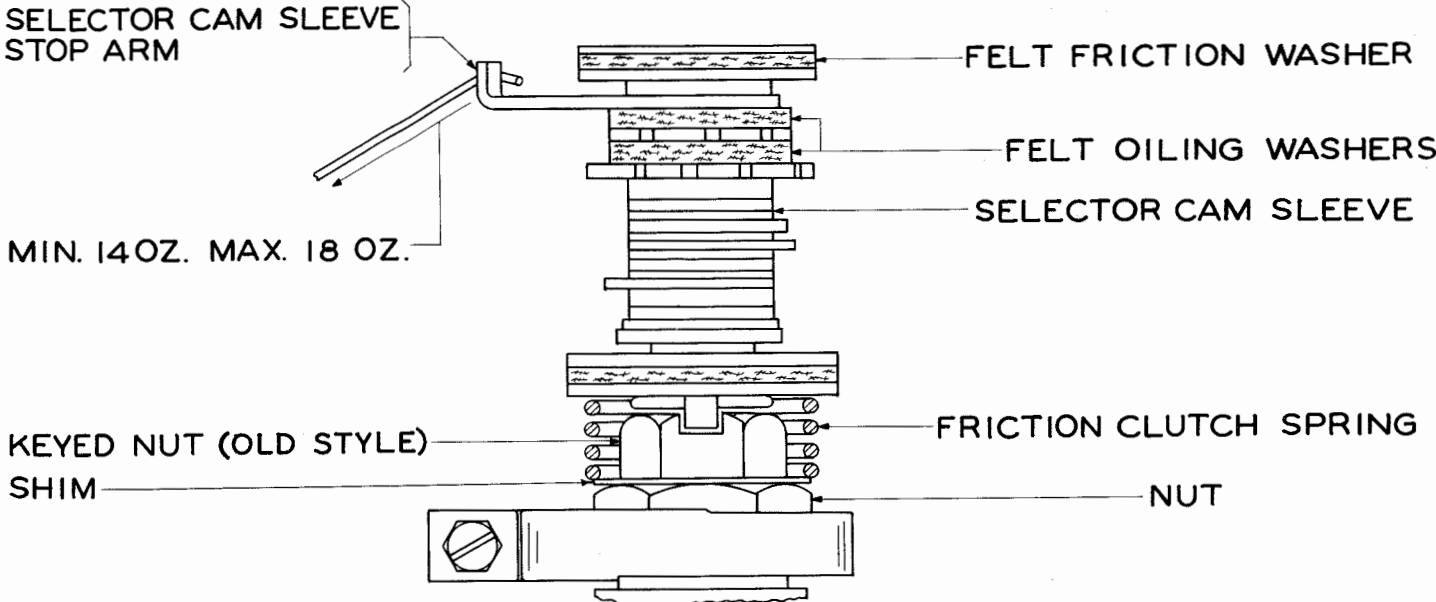

Figure 5
(2) On units equipped with the old-style nut and keyed nut, add shims between the clutch spring and the nut to increase the torque and remove shims to decrease the torque. The selector-clutch spring must be removed from the shaft to install or remove shims. Shims are available as follows: See Figure 5 for parts.